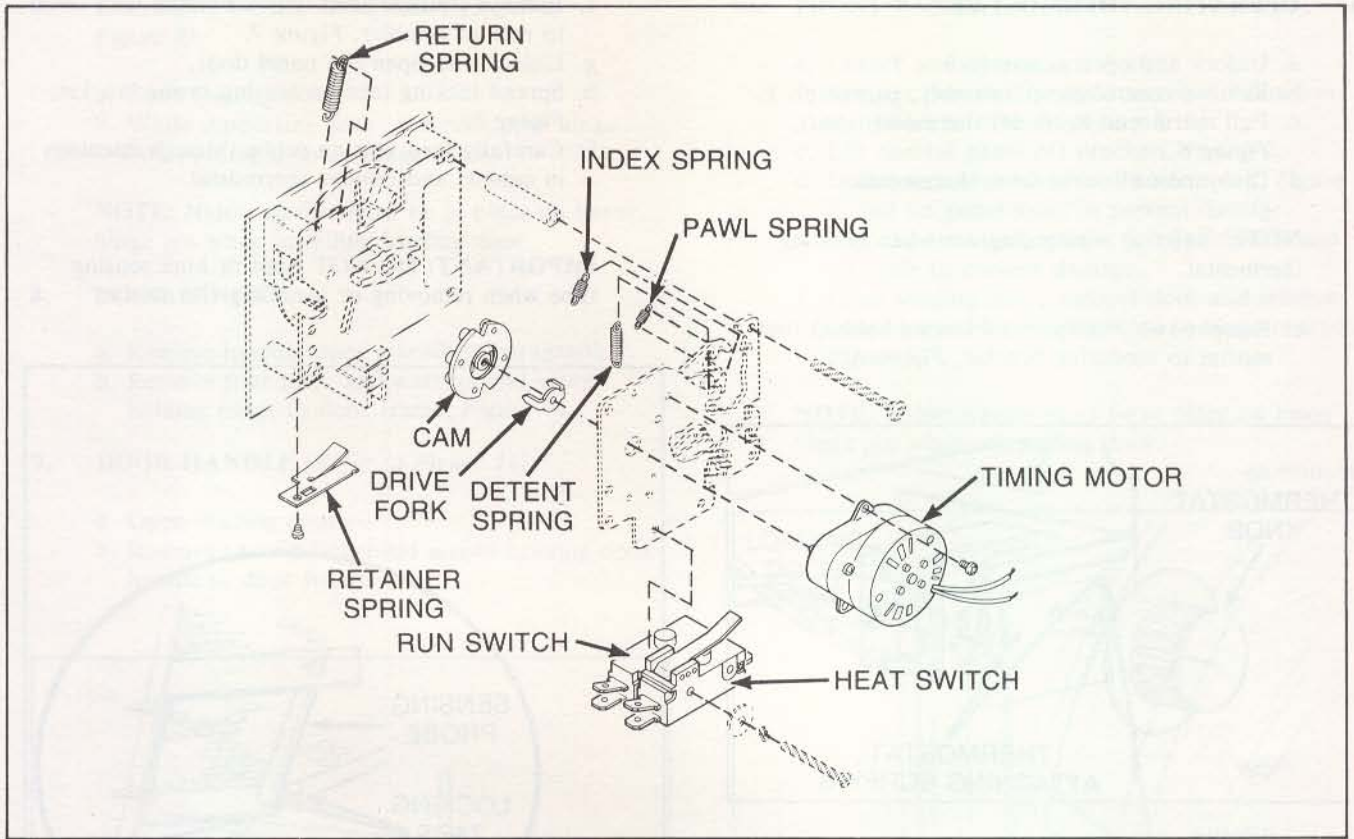

Figure 4
**NOTE:** Refer to Figure 4 for assembly sequence.